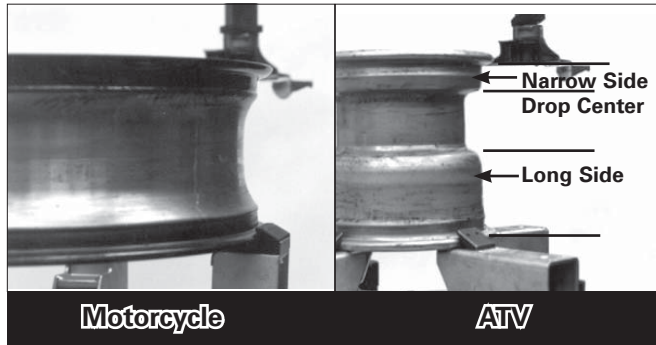

Figure 4 - Determining Mounting Side of Wheel
NOTE: Always loosen the bead on the narrow side of the wheel's drop center first (motorcycle wheels may not have a narrow or long side, and some ATV wheels may bolt together). See Figure 4 for more information on the drop center.
5. Determine the mounting side of the wheel. The mounting side is the narrow side of the drop center. (Tire removed in Figure 4 for clarity.)